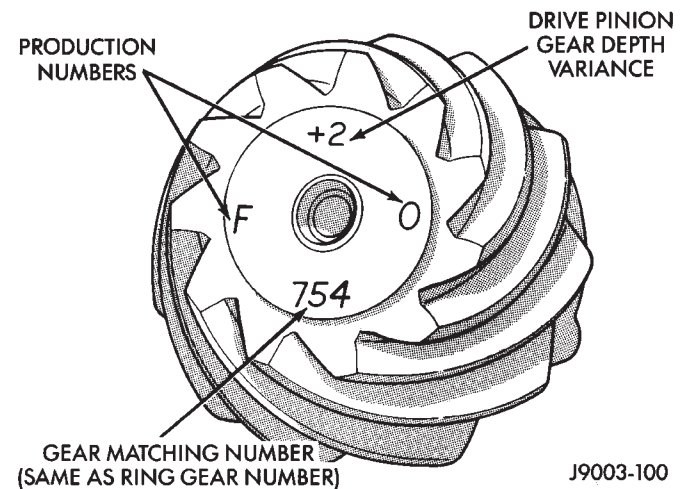

Fig. 55 Pinion Gear ID Numbers
Ring and pinion gears are supplied as matched sets only. The identifying numbers for the ring and pinion gear are etched into the face of each gear (Fig. 55). A plus (+) number, minus (–) number or zero (0) is etched into the face of the pinion gear. This number is the amount (in thousandths of an inch) the depth varies from the standard depth setting of a pinion etched with a (0). The standard setting from the center line of the ring gear to the back face of the pinion is 96.8 mm (3.813 inches) for Model 44 axles. The standard depth provides the best teeth contact pattern. Refer to Backlash and Contact Pattern Analysis Paragraph in this section for additional information.